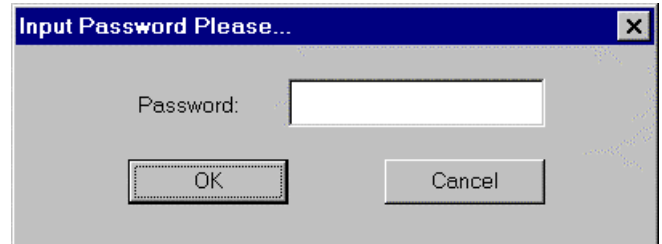

Figure 4.3 Input password dialog.
Step 3. Configure Password: From the configure menu, click Password. A dialog box (shown in Figure 4.3) appears on screen to ask for current password. If the password entered is incorrect, you are not given an opportunity to change it. The software comes with a default password "4001" which can be used the first time. We strongly recommend setting a unique password for each site to prevent unauthorized access.
Step 5. Make connection to DCPs: Select Connect from the File menu. An Input Password dialog box as shown in Figure 4.3 will appear on screen. Enter the password, and click OK. If the